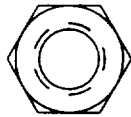

Fig. 56 - Hex Nut for Leveling Foot
31. Put a hex nut on each of the *leveling feet*. (Figure 56)